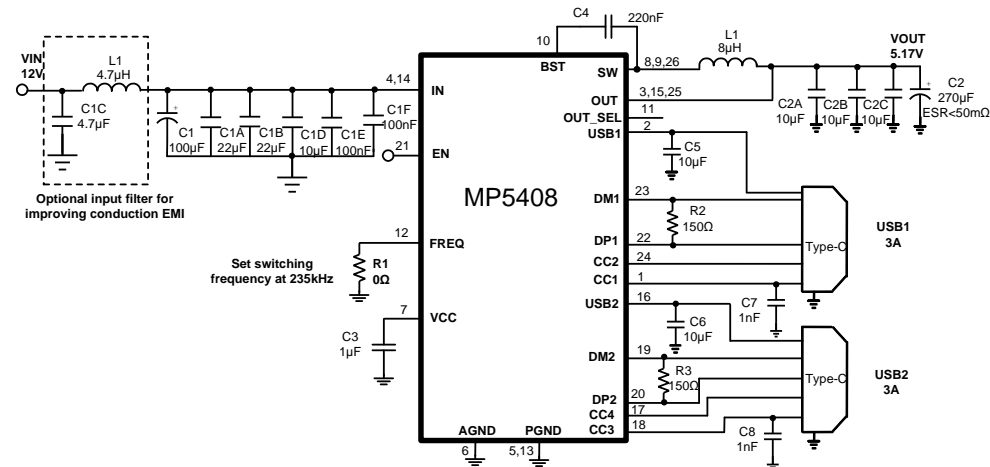

Figure 12: Dual USB Type-C 5V/3A DFP Ports ⁽¹¹⁾
10) The recommended layout is based on the Typical Application Circuits in Figure 12 through Figure 14.